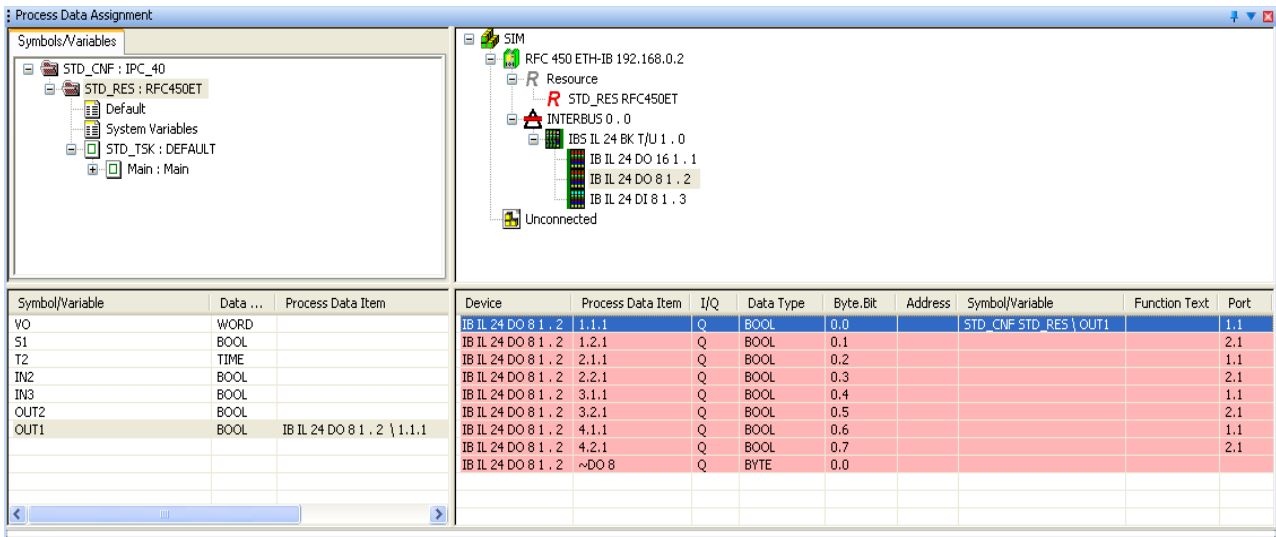

Figure 4-21 Process data item 1.1.1 assigned to variable OUT1
- In the top right window, select the device for which you would like to link the process data to variables (e.g., IB IL AO 1/SF in Figure 4-21).
- In the top left window, "Symbols/Variables", select the standard resource (STD_RES RFC450ET in Figure 4-21).
- In the top right window, select the device for which you would like to link the process data to variables (e.g., IB IL 24 DO 8 in Figure 4-21).
- Select the process data item to be linked (1.1.1 in Figure 4-21).
Please note that the variables shown in Figure 4-21 had to be created in the IEC programming workspace first before they could appear under "Symbols/Variables" in the process data assignment workspace.
- Using drag & drop, link the selected variable to one of the variables on the left-hand side (OUT1 in Figure 4-21).